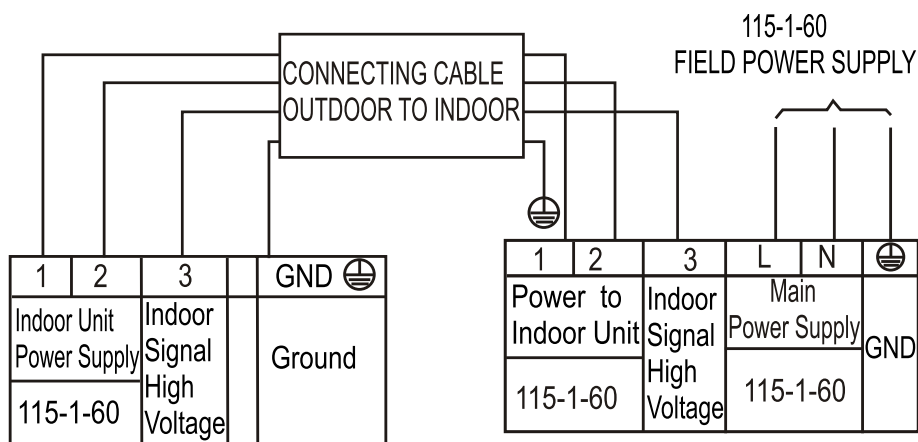
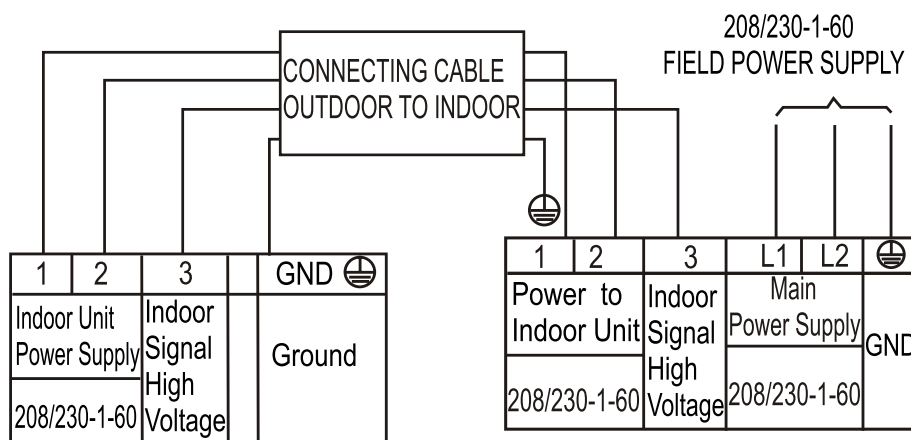

Fig. 23 — Connection Diagram 12K (115V)
Fig. 24 — Connection Diagram 6K - 36K (208/230V)
8. Connect the wiring from the outdoor unit per the connection diagram (see Figure 23 - Figure 24).